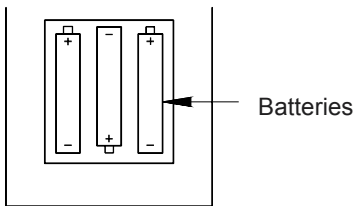

Fig. 4
2. Install three AAA batteries into the remote control (see Fig. 4)